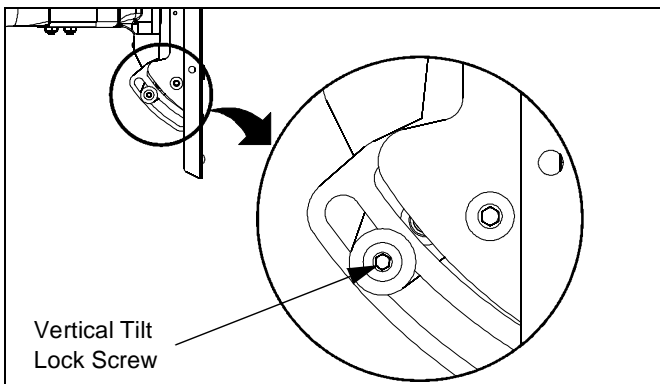

Figure 9
3. To lock the mount at the desired vertical tilt, tighten the vertical tilt lock screw. (See Figure 9)